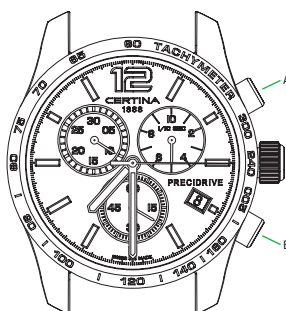

Fig. 3
- Time 2 readout (as per Fig. 3)**